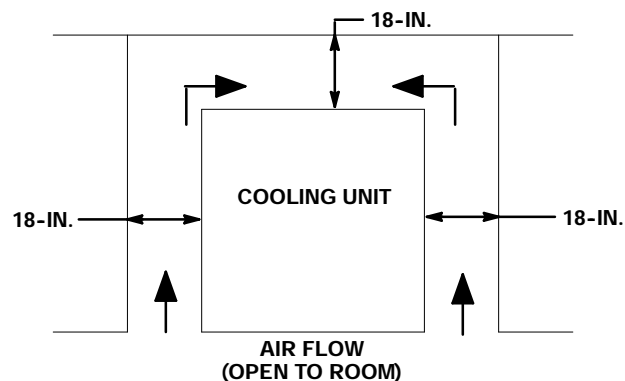

FIGURE 4. COOLING UNIT SPACE REQUIRED
fused as indicated on the Unit nameplate. The power circuit may also be wired through an equivalent HACR type circuit breaker rather than the disconnect switch. THE POWER CIRCUIT MUST BE MADE UP OF COPPER CONDUCTORS AND ALL WIRING MUST CONFORM TO NATIONAL AND LOCAL ELECTRICAL CODES; (4) Close to a plain water source supply line with proper requirements; (5) Allow sufficient space around Cooling Unit (see Figure 4) for proper air circulation (18-inches on sides and back, front side open to room, and top open to ceiling); (6) Be close to permanent floor drain to route Cooling Unit water tank drain and overflow hoses to the floor drain.
1. Very carefully, move Cooling Unit back into operating position leaving space around unit (see Figure 4) as specified in SELECTING LOCATION. MAKE SURE THERE ARE NO KINKS IN SYRUP INLET LINES, INSULATED PYTHON INTERNAL LINES, CO₂ AND PLAIN WATER INLET LINES, AND REMOTE CONDENSER AND FAN ASSEMBLY REFRIGERATION LINES (IF APPLICABLE).